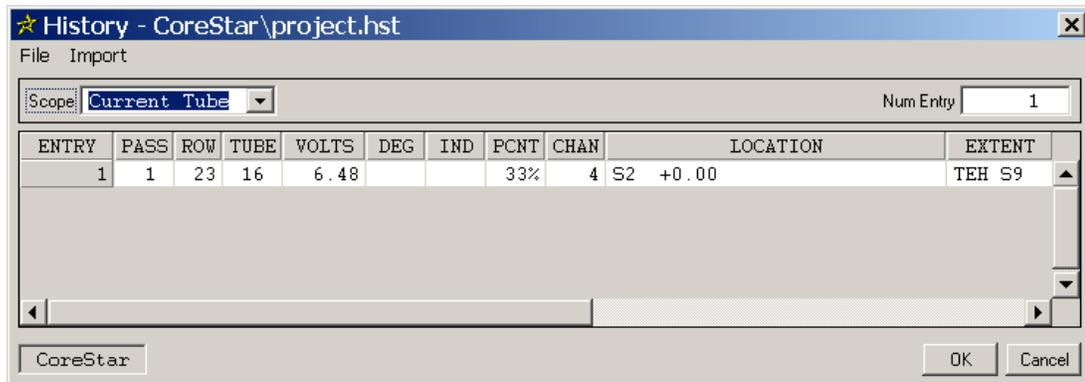

Figure 1-32. History Dialog
STEP 16: Click any **File** button until **77** appears. When this data file loaded, the **History** dialog should have appeared as shown in Figure 1-32. If the location is accurate in the **History** dialog and the landmarks **hit**, you can double-click the entry and the software will place the cursor at the historical location.